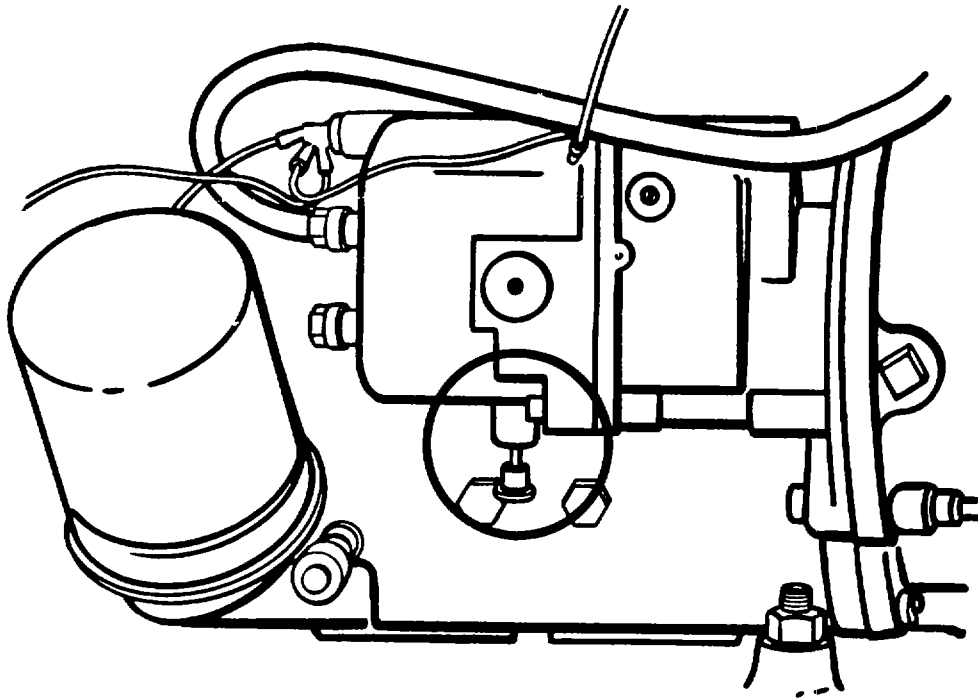

Figure 2-2. Magneto Ground Switch
- d. Pull the magneto ground switch down (Fig. 2-2).